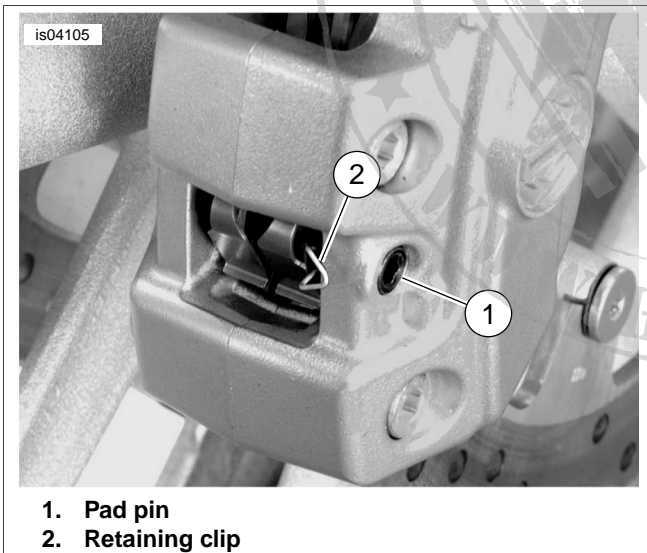

Figure 2. Front Caliper Pad Pin
- a. Remove the screen cover (5) from the caliper.
- b. See Figure 2. Note the orientation of the brake pads, and remove the retaining clip (2), pad pin (1) and brake pads from the caliper.
5. See Figure 2. Install the **new** pad pin (1) through the inner and outer brake pads. Tighten to 8.5-11.5 Nm (75-100 in-lbs).
6. Install the **new** retaining clip (2) onto the pad pin.